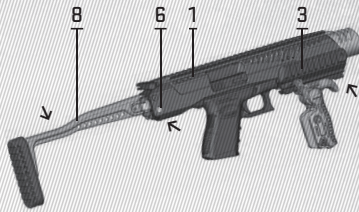

Fig 6
Step 3. Push the Handguard (3) upwards until the pistol is positioned into the Receiver (1). Push the Buttstock (8) downwards and secure the system by inserting the Rear Locking Pin (6) back into place (Fig.6).